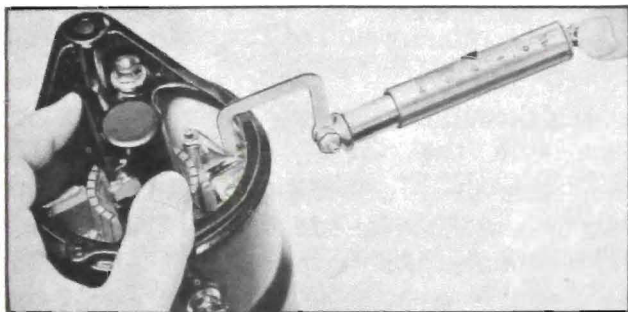

Figure 10-12—Checking Brush Spring Tension
2. After the commutator end frame is installed to support the armature check the tension of both brush springs, using Brush Tension Checking Scale J 5184. See figure 10-12.